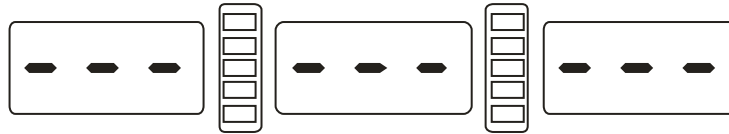

Figure 17-1
17.2.4 If turn on the power LED display ect figure 17-1,need measure scale